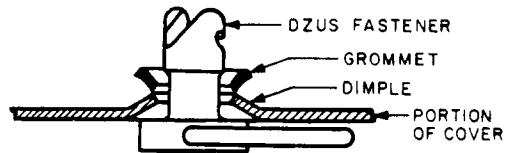

Fig. 7 - Mounting GH5 Grommet on Fastener Stud (Small Diameter Against Dimpled Cover)
5.03 Covers With Dimpled Holes: To replace Dzus fastener stud on a cover with a dimpled hole, remove the cover as covered in 4.03. Where the stud is loose on the cover or if the dimple is deformed, proceed as follows. Cut off the head of the stud with the hack saw and remove the stud from the cover. *Where the dimple is satisfactory*, proceed as follows. Insert a new Dzus fastener of the same list number (L2 or L7) through the dimpled hole and rest the head of the fastener on a hard surface. Place a Dzus GH5 grommet over the cam end of the fastener stud so that the small diameter of the grommet rests on the dimple as shown in Fig. 7.